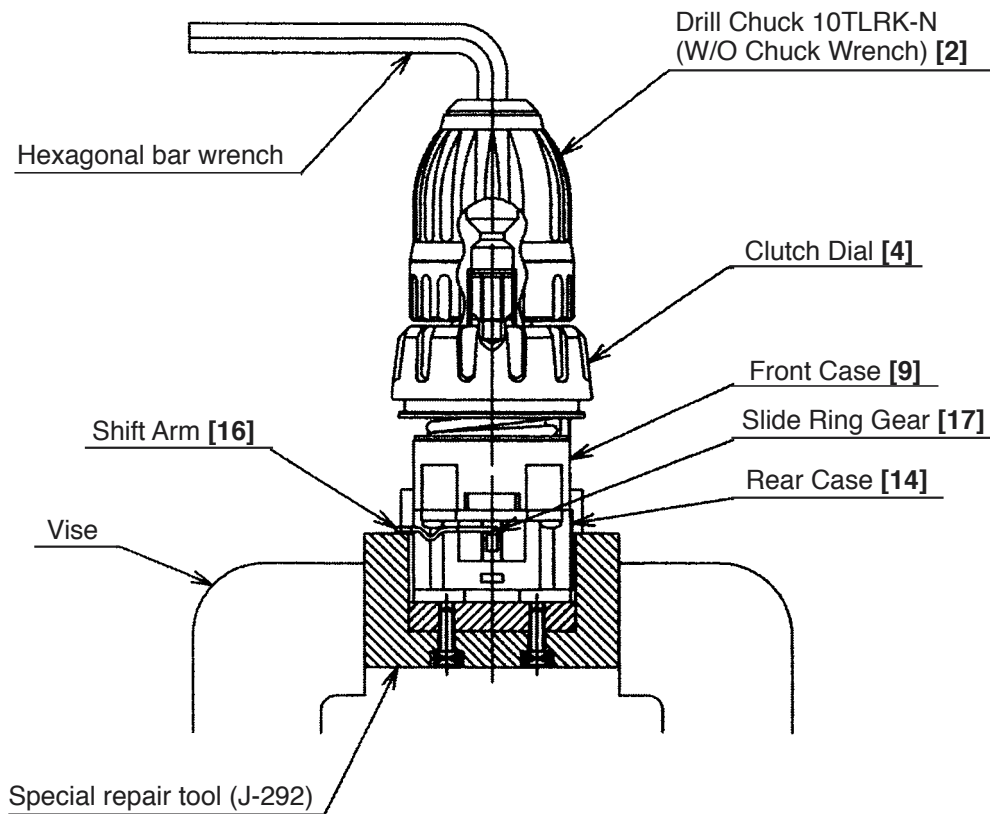

Fig. 1
(3) After housing (B) has been removed, all the internal parts, assembled or separate, can be taken out as they are. Lift the entire contents from housing (A) while holding the Motor **[25]** and the Clutch Dial **[4]**.
(4) Removal of the Drill Chuck 10TLRK-N (W/O Chuck Wrench) **[2]** (See Fig. 1.)
(b) Attach the motor spacer (an accessory of the special repair tool J-292, Code No. 316-379) to the assembly of the Drill Chuck 10TLRK-N (W/O Chuck Wrench) **[2]**, Clutch Dial **[4]**, Front Case **[9]** and Rear Case **[14]** then mount it in special repair tool J-292 clamped in the vise as illustrated in Fig. 1. In this operation, check that the pinion press-fitted in the special repair tool J-292 and Planet Gear (A) Set **[21]** are engaged properly.
(e) Fit the hexagonal bar wrench M10 into the Drill Chuck 10TLRK-N (W/O Chuck Wrench) **[2]** as illustrated in Fig. 1 and remove the Drill Chuck 10TLRK-N (W/O Chuck Wrench) **[2]** by turning the hexagonal bar wrench counterclockwise.